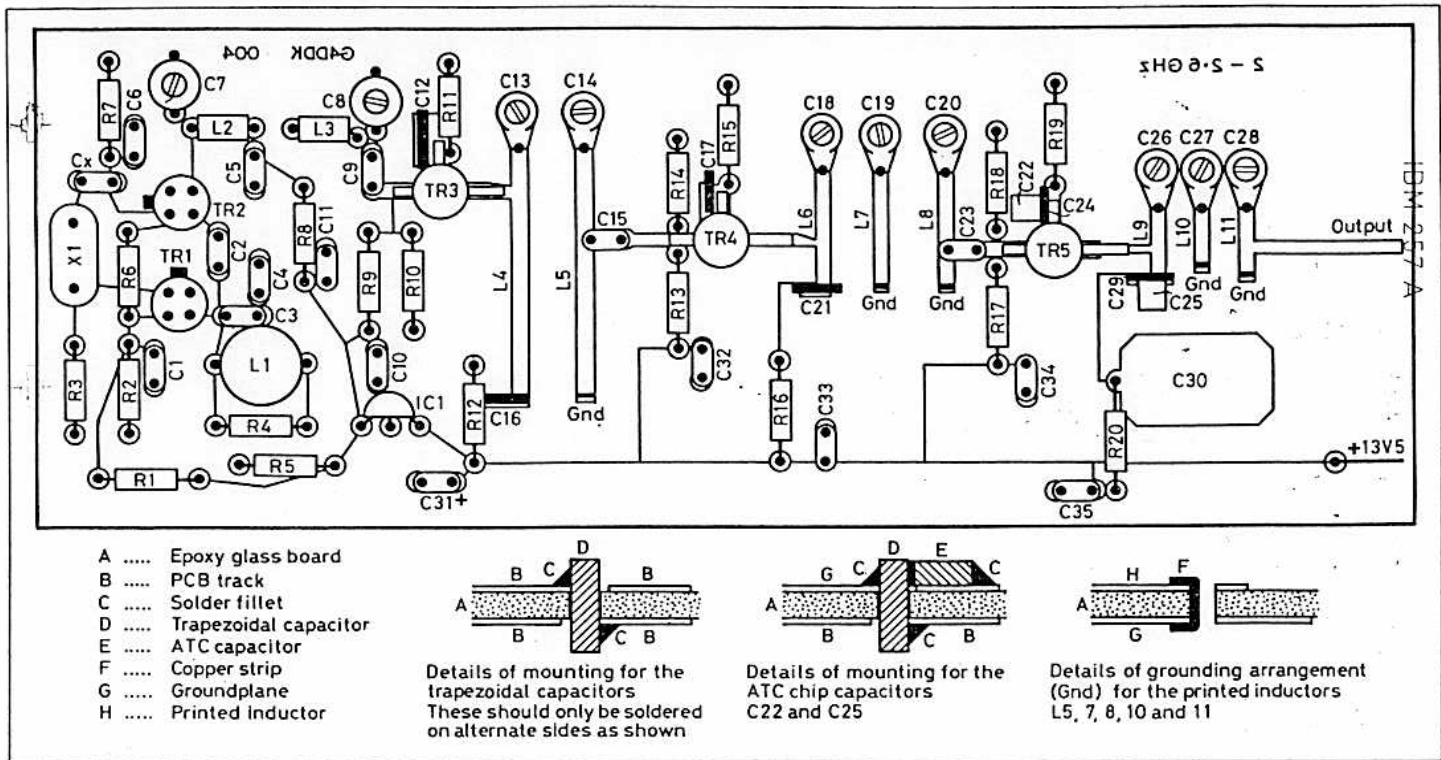

Fig 2. Component overlay.
8. Populating the PCB with components (Fig 2) should be done in the following order.